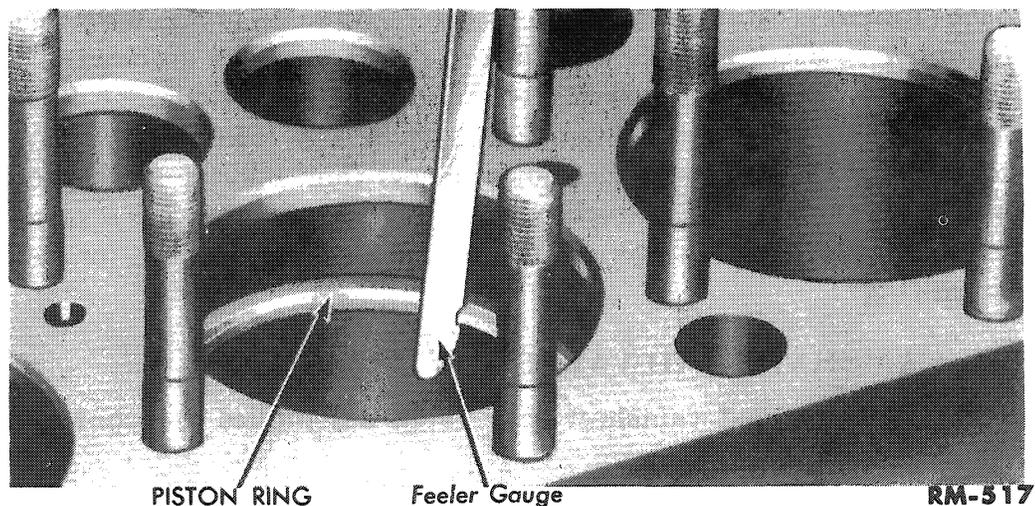
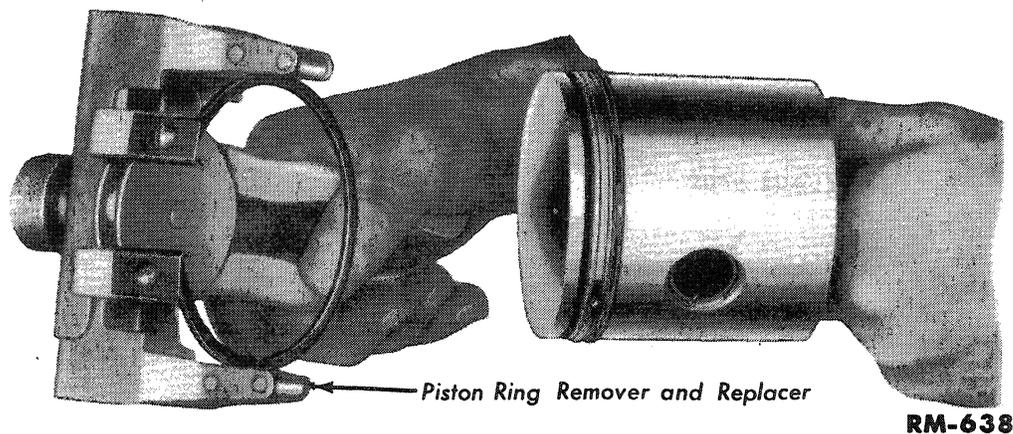

Fig. 23—Measuring Piston Ring End Gap
Fig. 24—Installing Piston Ring on Piston
d. Assemble Piston, Piston Pin, and Connecting Rod. Install the piston which was previously fitted (par. a (1) (a) above) for the particular cylinder to the connecting rod previously selected and having the number of that cylinder. Hold the piston in place on the connecting rod. Install a piston pin in the piston and connecting rod, and install a piston pin retainer in each piston pin bore groove.
e. Fitting and Installing Piston Rings. Place a new piston ring in the cylinder, and press it about half-way down into the cylinder bore with the bottom of a piston so the ring will be square with the cylinder wall. Measure the ring end gap with a thickness gauge (fig. 23). If the gap is less than 0.012 inch, remove the ring. Place the ring in a jig, and file it with a fine cut file until the correct gap (0.012 to 0.017 inch) is established. If the gap exceeds 0.035 inch, an oversize ring must be used. Roll the new piston ring around its groove in the piston. The top ring should roll freely and not have a clearance of less than 0.0015 inch or more than 0.0035 inch. The lower rings should roll freely and not have a clearance of less than 0.001 inch or more than 0.004 inch. Install the piston ring on the pistons with a piston ring expander (fig. 24). Repeat the entire above procedure for each piston ring